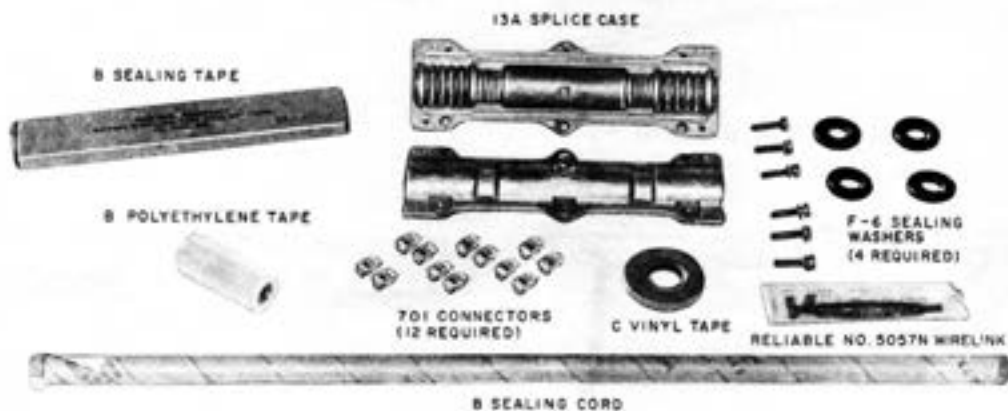

Fig. 17—Material Required for Splicing F Multiple Drop Wire
7.01 F multiple drop wire may be spliced before placing using the material listed in Table B and shown in Fig. 17.